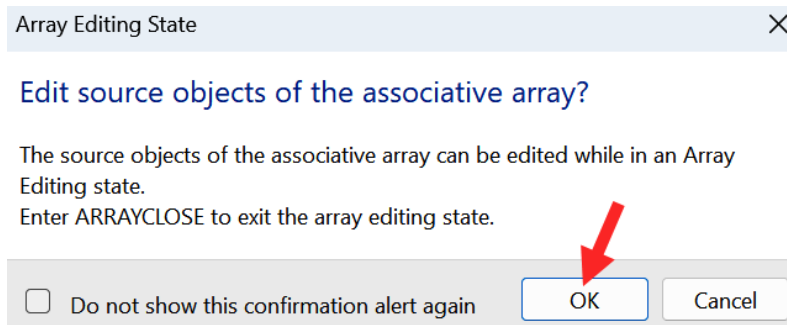

Figure 6.23: The Edit Source confirmation dialog box
4. A small dialog box will appear, as shown in *Figure 6.23*. It is a confirmation that you want to edit the source objects of the array. Click on **OK**.